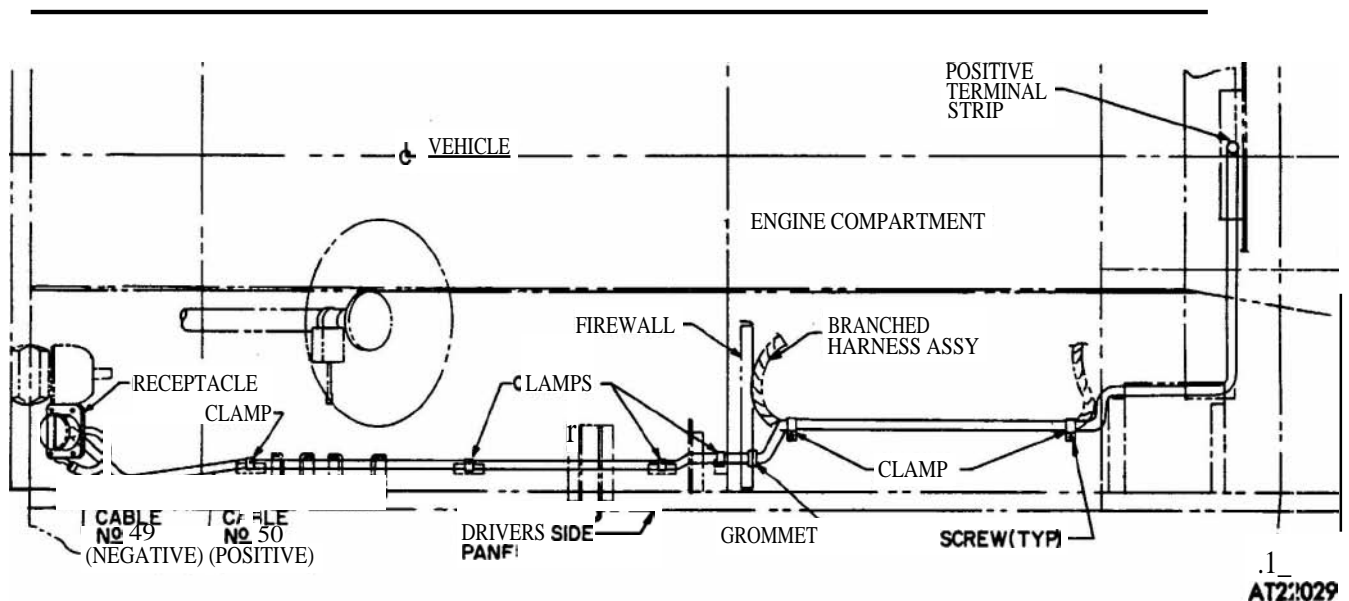

Figure 3-9. Slave cable kit, installation.
when the vehicle engine is running, or 24 volts direct current supplied from an external source to the vehicle batteries in case of vehicle battery failure. The kit consists of a receptacle assembly, attaching hardware, and cable securing clamps (fig 3-9).
g. Install grommet (fig 3-9) in hole drilled in firewall. Guide positive cable along the driver side panel *and* through grommet. Secure cable to the four brackets with clamps and **screws**.
(1) Open engine cover (refer to TM 9-2320-242-10).
(2) Disconnect positive battery lead at battery on driver side of vehicle.
(3) Remove cover from terminal strip (fig 3-9)